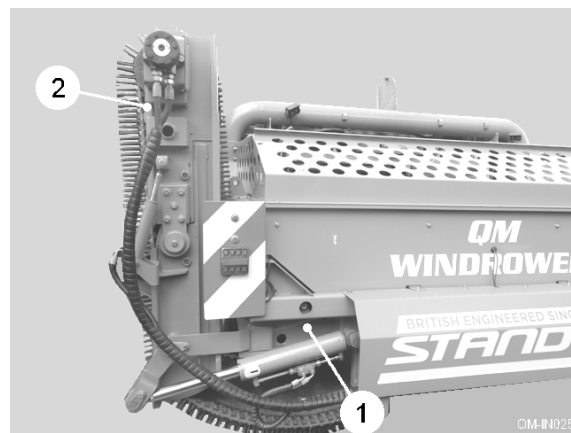
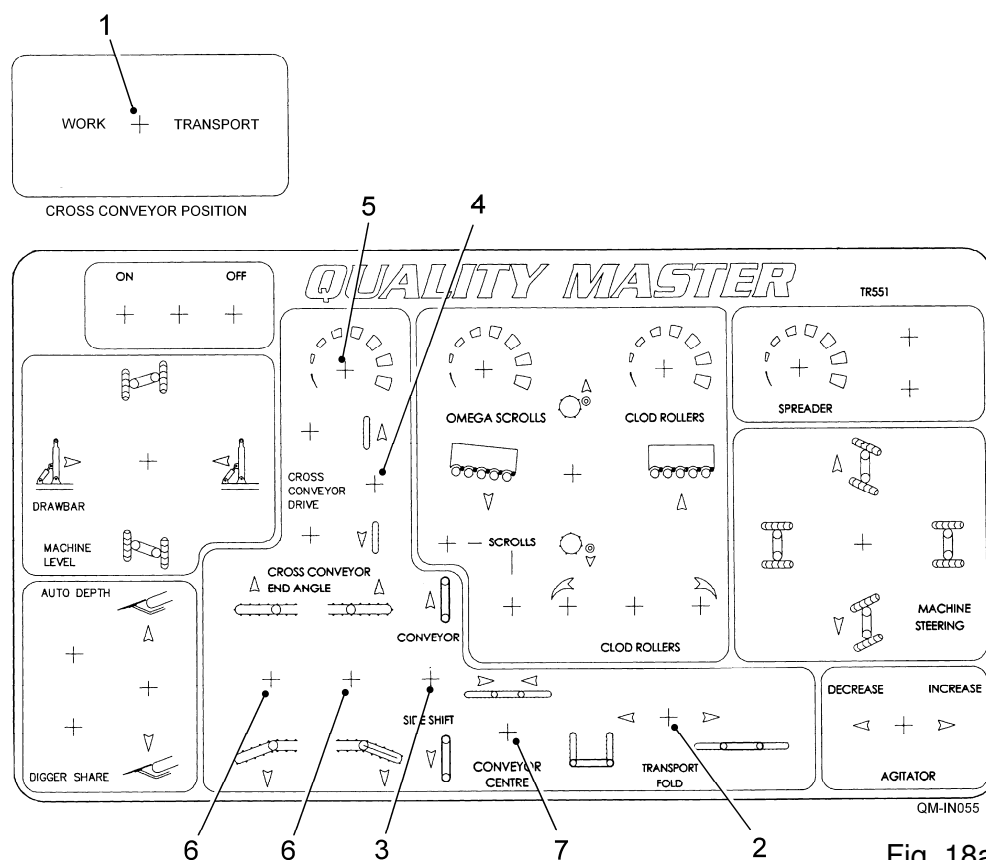

Fig. 18
Fig. 18a
The windrow conveyor (item 1, fig. 18) is fitted in place of the discharge elevator. The conveyor is designed to fold within the width of the machine for transport and to open out to discharge onto either the adjacent un-harvested bed or one bed further over.
The conveyor will only fold or unfold with the CROSS CONVEYOR POSITION switch (item 1, fig. 18a) in the TRANSPORT position.
Operate the TRANSPORT FOLD switch (item 2, fig. 18a) to lower the conveyor. Once fully lowered, the CROSS CONVEYOR POSITION switch (item 1, fig. 18a) must be set to WORK position, disabling the fold/unfold function and enabling all other cross conveyor functions.
The whole conveyor can be moved to the left or right by 1200mm using the CONVEYOR SIDESHIFT switch (item 3, fig. 18a).
The discharge direction is selected by the CROSS CONVEYOR DRIVE switch (item 4, fig. 18a) and speed is controlled by the dial (item 5, fig. 18a). Adjust the speed according to the volume of crop being handled.
To reduce the drop height of the crop, the conveyor end sections (item 2, fig. 18) can be lowered using the switches (item 6, fig. 18a) marked CROSS CONVEYOR END ANGLE.
Raise the end sections (item 2, fig. 18) to horizontal and then side-shift the conveyor until approximately in the centre. Press and hold the CONVEYOR CENTRE button (item 7, fig. 18a) to fully centralise the conveyor.
Once fully centred, set the CROSS CONVEYOR POSITION switch (item 1, fig. 18a) to TRANSPORT and fold up the conveyor using the TRANSPORT FOLD switch (item 2, fig. 18a).